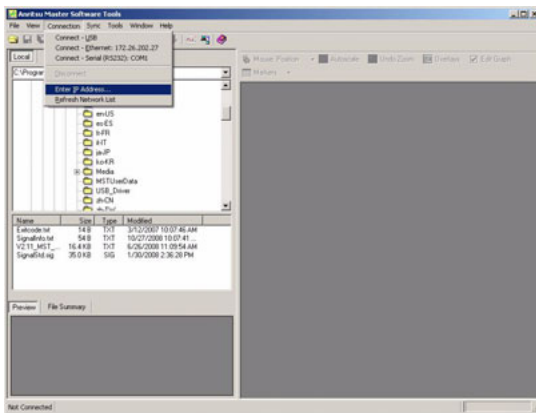

Figure 1-7. Master Software Tools Connection Menu
2. Click the “Connection Menu” and then click “Enter IP Address”. Refer to Figure 1-7.